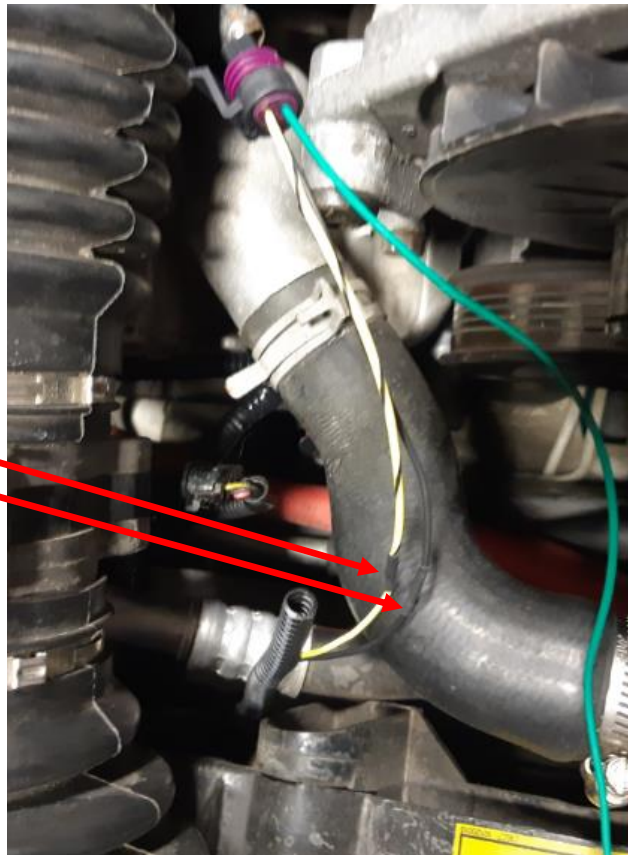

Figure 3
- 6) Connect the original ECT sensor YELLOW WIRE to the new ECT sensor YELLOW/BLACK wire. (solder and shrink wrap). See Figure 3.
- 7) Connect the original ECT sensor BLACK wire to the new ECT sensor BLACK wire. (solder and shrink wrap). See Figure 3